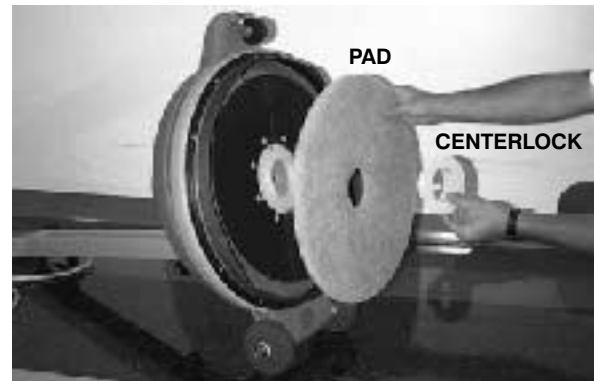

FIG. 1
4. Place selected pad on flexible pad driver and replace centerlock. Be certain centerlock is tight (Figure 1).